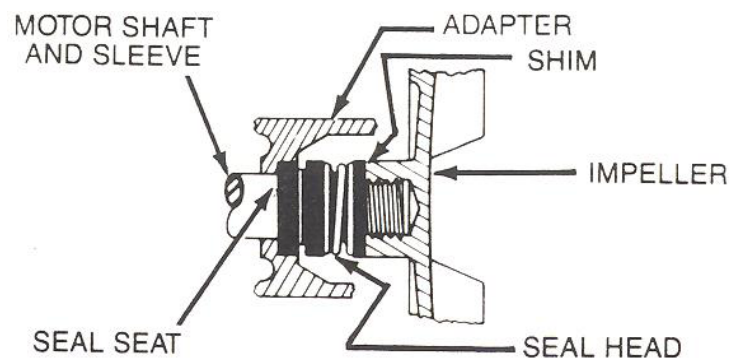

Figure 1 - Mechanical Seal Replacement
Refer to Figures 1 and 2.
**IMPORTANT:** Be sure that shaft shoulder does not damage polished face (see figure 1).